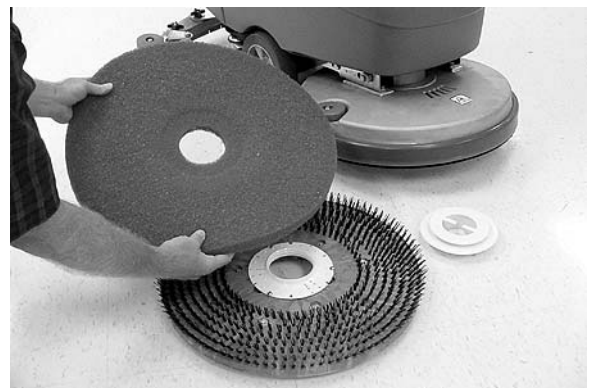

FIG. 41
5. Remove the pad/brush and clean. Rotate pad or replace when worn (Figure 41).